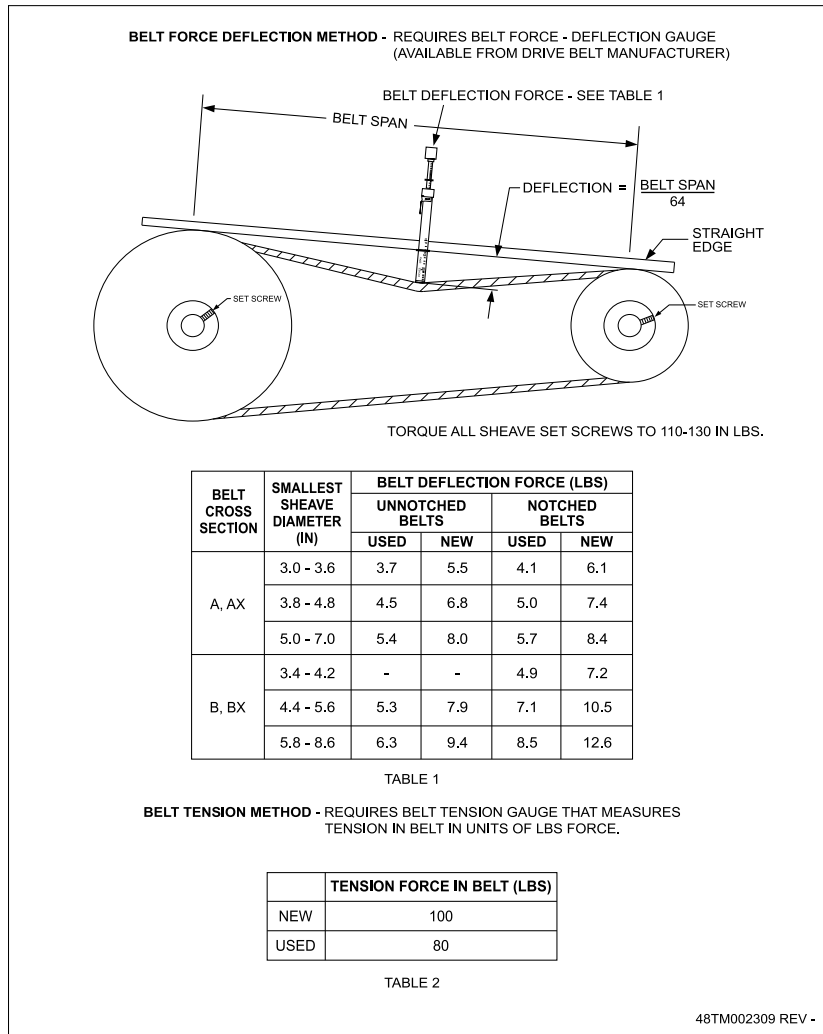

Fig. 79 - V-Belt Force Label
Measure the belt span length as shown in Fig. 79. Calculate the required deflection by multiplying the belt span length by $\frac{1}{64}$. For example, if the belt span length is 32 inches: $32 \times \frac{1}{64} = \frac{1}{2}$ inch deflection.
2. Set the tension gauge to the desired tension (see Table 1 in Fig. 79). Place the large O-ring at that point.